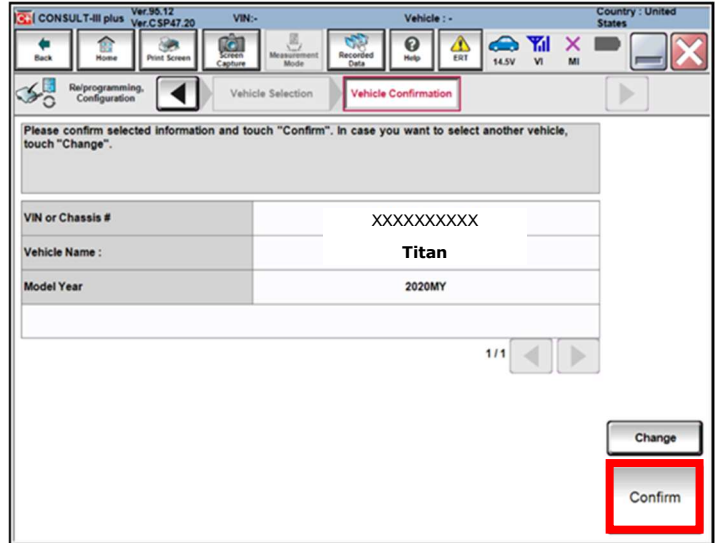

Figure 17
19. Confirm VIN, Model, and year are correct. (Figure 17)